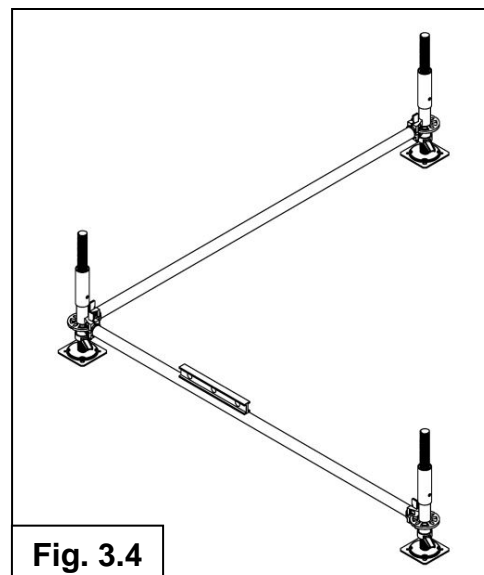

Fig. 3.4
- All Horizontals are level. Adjust the Jacks if necessary (see Fig. 3.4).